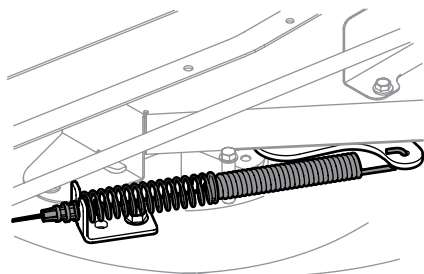

Figure 4-8
- Carefully remove the PTO cable from the rear of the cutting deck. Remove the spring from the deck idler bracket. See Figure 4-8.